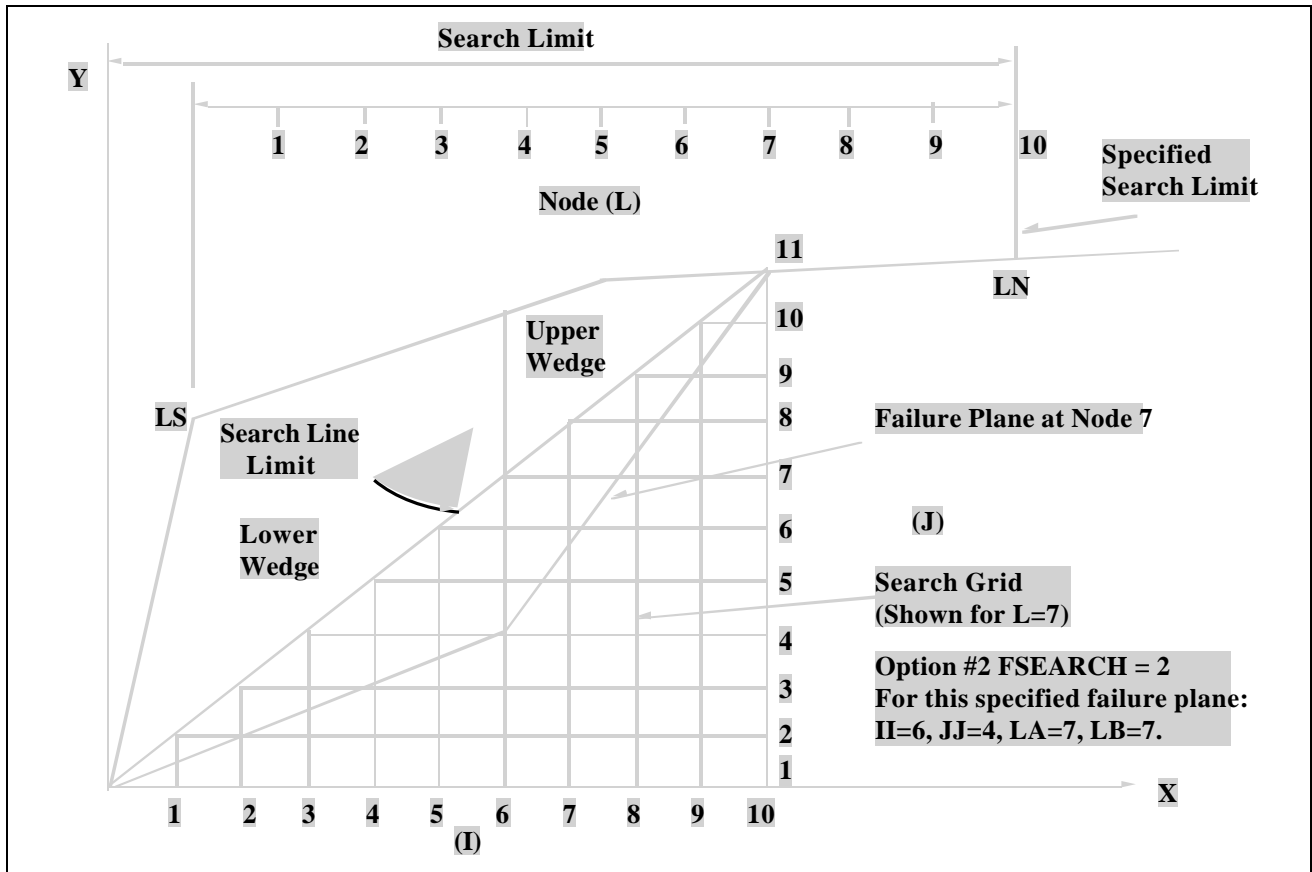

FIGURE 3. SEARCH GRID PATTERN FOR NODE 7.
1. Search Limit - (see Figure 3).
In Figure 3, I and J define the search grid at each node. 56 failure search combinations for each node are predetermined by the program.